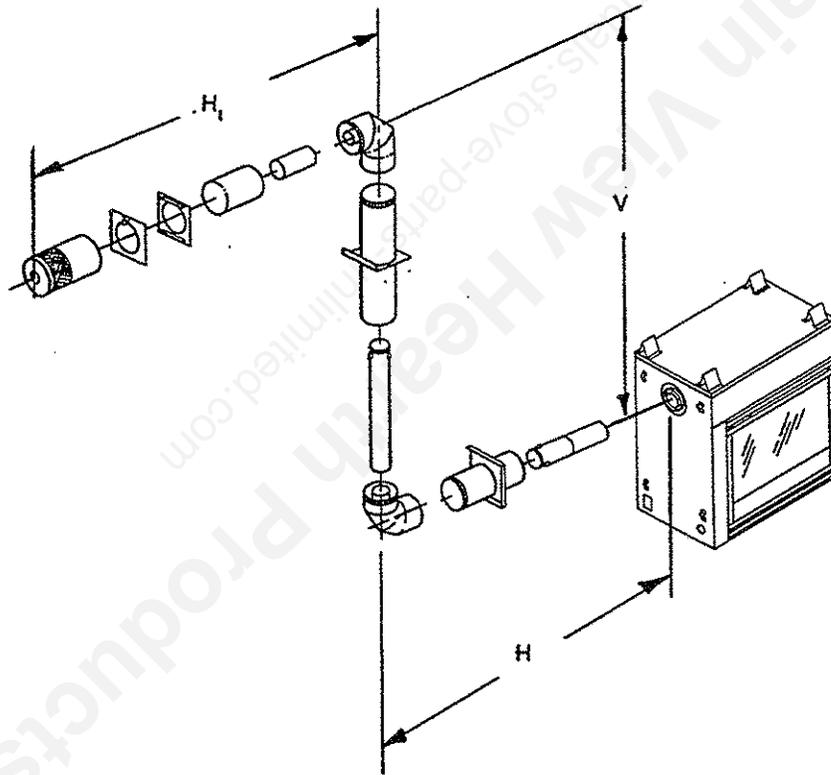

FIGURE 7
Figure 7 and Table 4 show examples of possible installations using two (2) 90-degree elbows. Dimension V is listed as **MINIMUM** vertical dimensions, dimension H is listed as **MAXIMUM** beginning horizontal dimensions, and dimension H+H₁ is listed as corresponding **TOTAL MAXIMUM** horizontal dimensions. Vertical dimensions are based on centerline to centerline of pipe. Horizontal dimensions H are based on back of unit to centerline of pipe. Horizontal dimensions H₁ are based on centerline of pipe to end of termination.